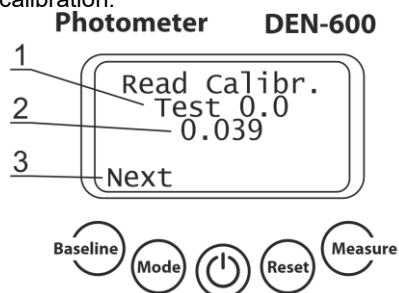

Figure 4. Saved user calibration data.
5.8. **Saved user calibration data observation (figure 4).** Press **Mode** key in user calibration regime, then press Next (**Baseline** key) to observe calibrated points and Abs result equivalent to McF in user calibration.